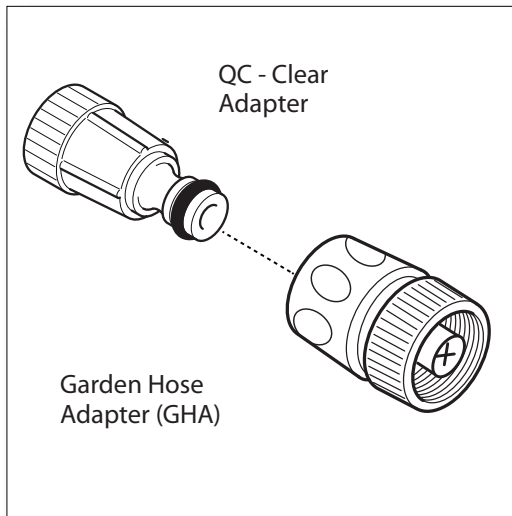

Fig. 13
- Install the garden hose adapter (GHA) and quick connect filter. It is made up of two separate pieces. (1) A clear plastic adapter with a screen filter (about 3 inches long) and (2) collar attachment (Fig. 13).